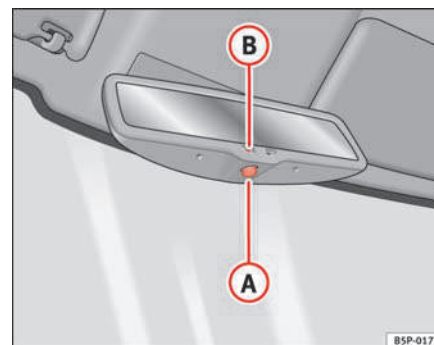

Fig. 67 Automatic anti-dazzle interior mirror.
- Press button (A) ⇒ fig. 67. Warning lamp (B) goes out:
- Press button (A) ⇒ fig. 67. Warning lamp is lit.